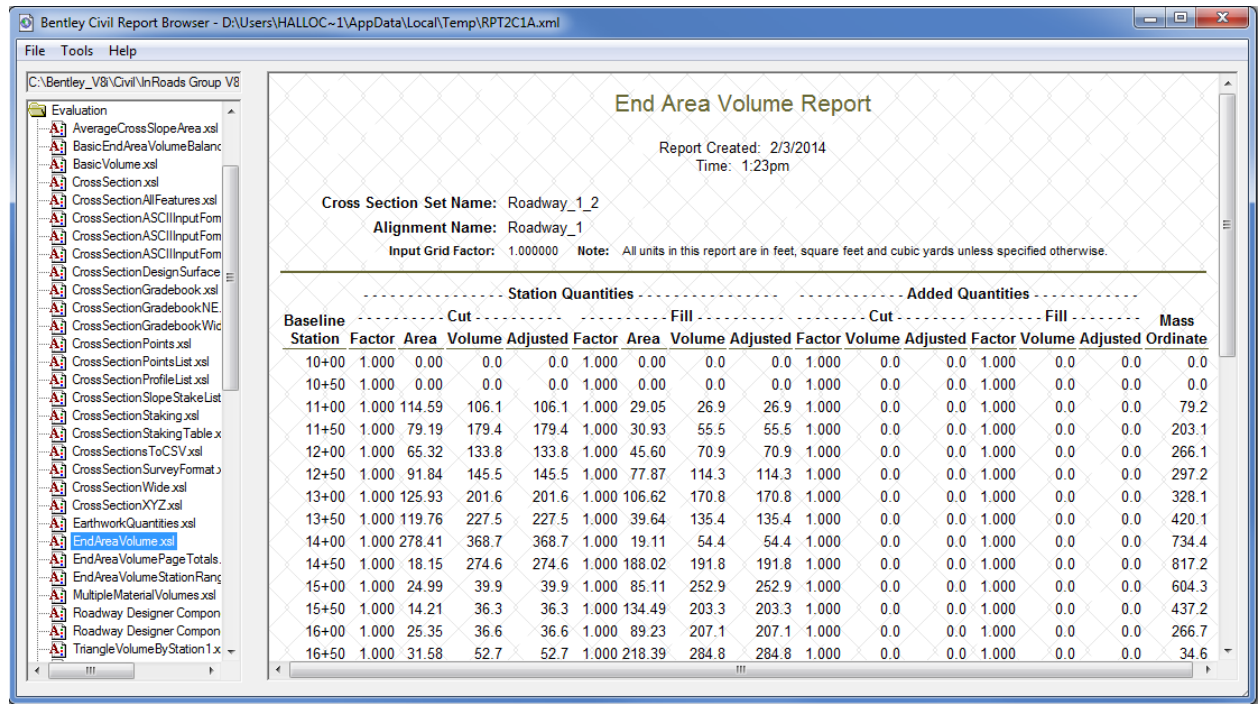

Figure 9-3 InRoads Report Browser Basic End Area Report
- C. For the **General** tab, make sure the *existing* and *proposed* surfaces are checked on. Make sure **Create XML Report** is checked on, click **Apply**. Figure 9-3 displays the content of the Basic End-Area Volume report. The report can be saved in the project directory as a HTML or XLS file format.